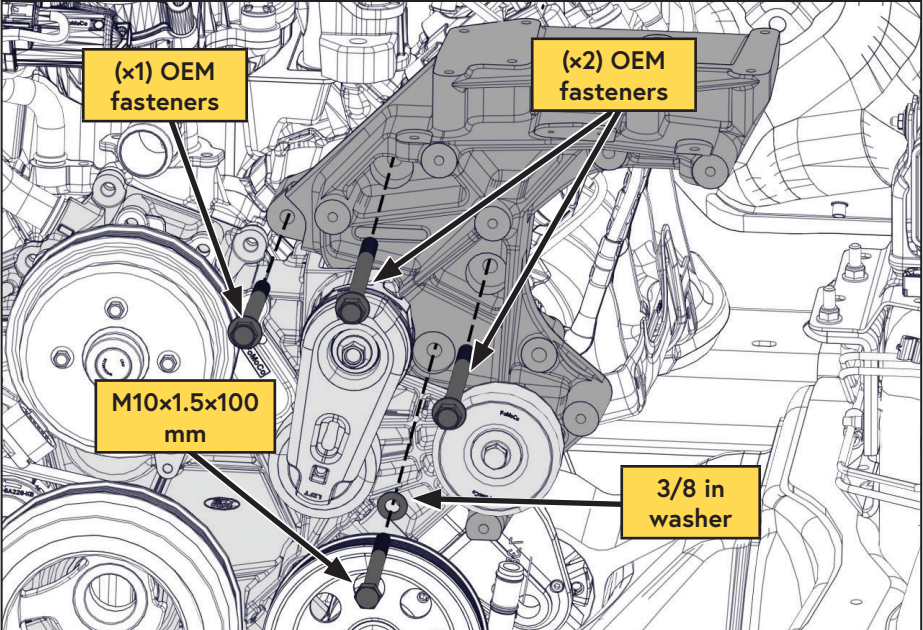

Figure 29 — Install main bracket
- ☐ Using the (x3) OEM fasteners, and the supplied bolt and washer, install the main bracket (Figure 29).